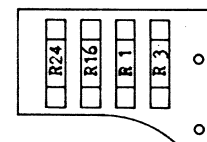

Fig. 224.1
- 4.6 Open front plate support. Unsolder the three wires from the tag block. Solder the resistances R 1, R 3, R 24 and R 16 into the front plate block. Solder the resistances R 1, R 3, R 24 and R 16 into the front plate according to the determined values (see Fig. 224.1). Close the front plate support.